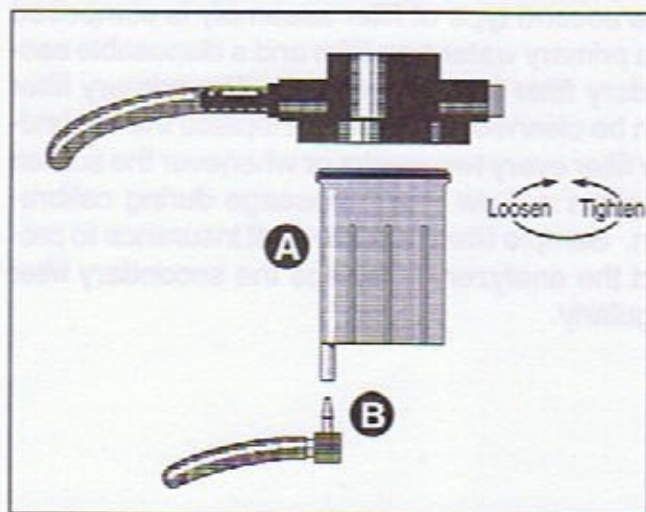

Figure 6-5
1. (see Figure 6-5) Gently pull the elbow (B) out of the tube on the bottom of the filter bowl assembly (A).